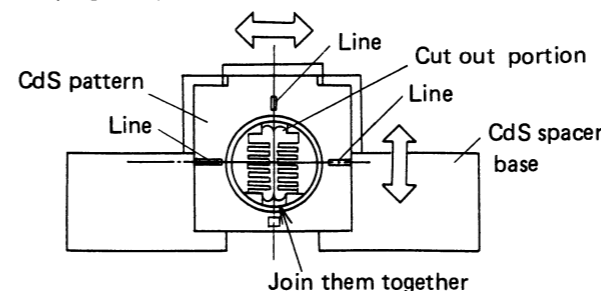

Fig. 3-8 Cds assembly mounting
2. Then align the CdS spacer base line with the center of the circuit board pattern, and allow adhesive to run in between the CdS component and the CdS spacer to join them together (Fig. 3-8).